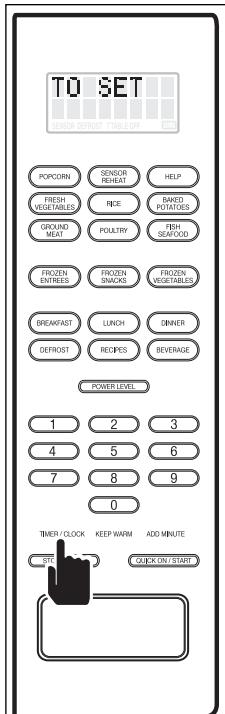

Figure 3-17.
1. Press the TIMER/CLOCK key and "TO SET - KITCHEN TIMER - PRESS 1 - TO SET CLOCK - PRESS 2" will flash on the digital display (See Figure 3-17).